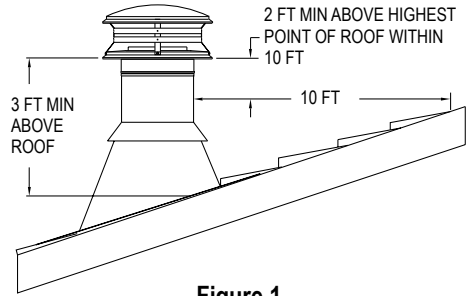
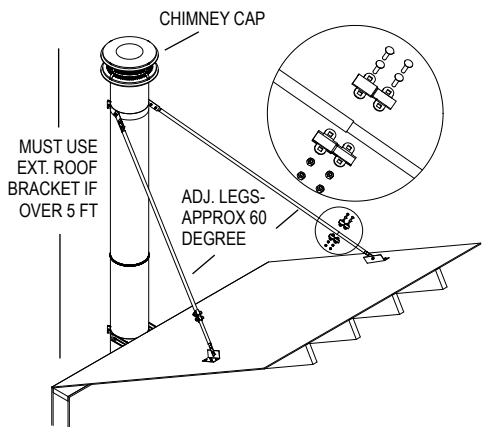

Figure 1
Figure 18
The National Fire Protection Association Standard #211 states: "Chimneys shall extend at least three feet above the highest point where it passes through the roof of a building, and at least two feet higher than any portion of a building within ten feet." (**Fig.1**) DuraTech Chimney may be installed up to 60 feet high. If the chimney extends more than 5 feet above the roof, an Extended Roof Bracket must be used (see page 12). Due to the overlap of the joints, subtract 1-1/4 inches from each Chimney Section's height to calculate installed height.
10. Finish Top: Apply a high-temperature (500°F), non-hardening waterproof sealant around the chimney at the point where the Storm Collar will meet the chimney just above the Flashing (**Fig.15**). Slide the Storm Collar down over the chimney to the top of the Flashing. Tighten and seal the Storm Collar against the sealant. After installing sufficient Chimney Sections to meet the height requirement (**Fig.1**), attach the Chimney Cap onto the top of the chimney by holding the collar of the cap and twist locking it clockwise onto the chimney. Do not hold upper portion of the cap and twist, as this may damage the cap. The Chimney Cap can be removed for chimney cleaning as described in the Chimney Maintenance section of the instructions. Use an Extended Roof Bracket if the chimney extends more than 5' above the roof (**Fig.18 in the Extended Roof Bracket section**). If you are located in heavy snow country, it is recommended that a Snow Splitter be installed (**Fig.16**). This will help protect the chimney by routing snow around it.
2. **Attach the Legs:** The Adjustable Legs of the assembly will adjust from 67" to 114". Secure one end of each Leg to the Pipe Band using the nuts and bolts included (2 per Leg). Position the Adjustable legs so they form approximately a 60° angle with the chimney, and with each other (**Fig.18**). Be sure that there is at least 3" of overlap between the top and bottom halves of the Adjustable Leg. In order to secure Legs in proper position, there is a hole provided in the outer leg where the outer and inner halves overlap. Use a 1/4" drill bit to drill through the inner leg at that location. Use the nut & bolt provided to pin the Adjustable Legs in position.
3. **Install Roof Brackets:** Mount the two Roof Brackets where each of the Adjustable Legs meets the roof, using (4) 1" roofing nails or screws per bracket. Seal the nail heads carefully with a non-hardening, waterproof sealant. Attach the bottom end of the Adjustable Legs to the Roof Brackets using the nuts & bolts provided.